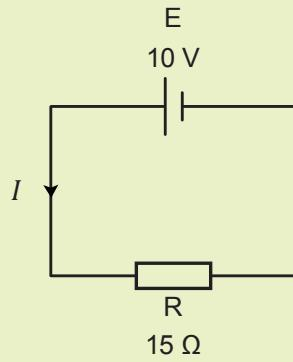

Figure 2.32
2. A $15\ \Omega$ resistor is connected as shown in Figure 2.32.